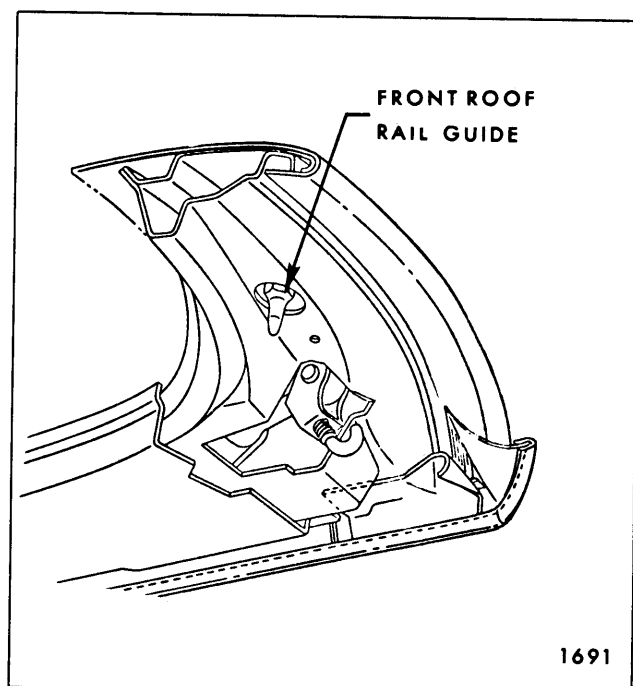

Fig. 13-78—Guide Adjustment
2. Loosen guide sufficiently to permit adjustment (Fig. 13-78).